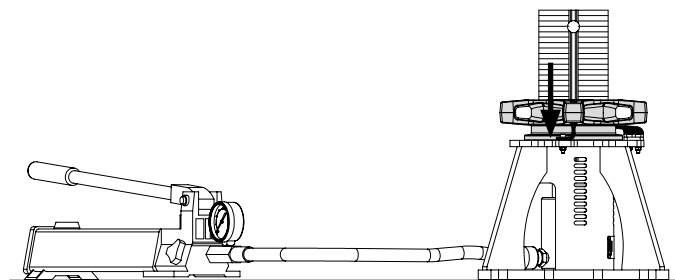

Fig. A5.08
6. Repeat the procedure until the pressure gauge shows the specified force, see static and prestressing plan. (Fig. A5.08)